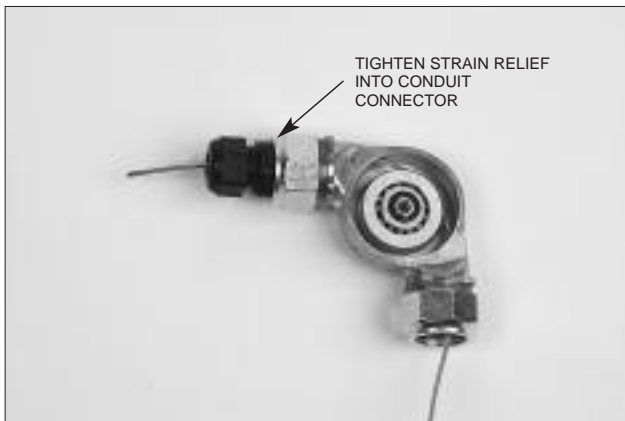

FIGURE 5
5. Tighten the body of the strain relief to the conduit connector. See Figure 5.